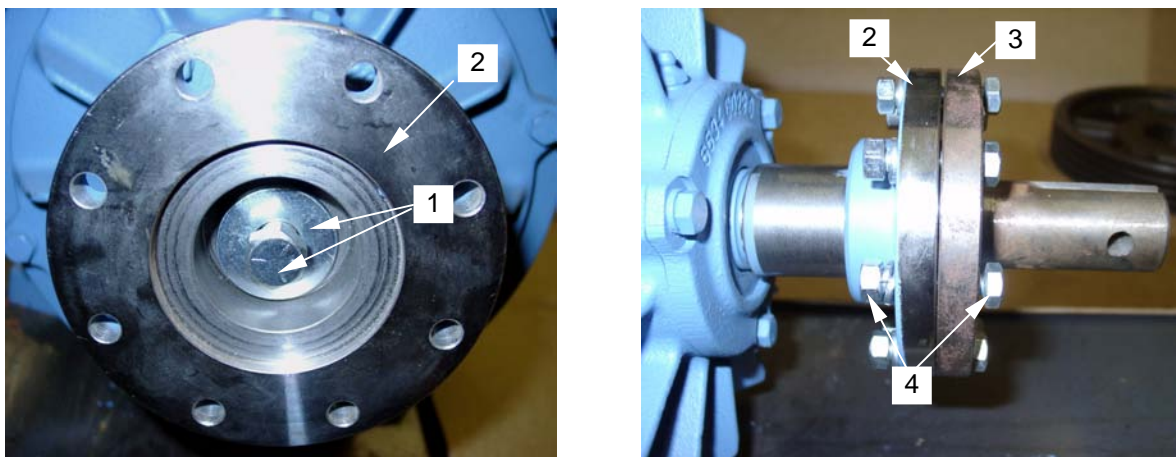

Figure 8. Installing Flanged Pump Shaft Extension
11. Install flat washer and bolt (**figure 8, item 1**) into tapered shaft coupler (**figure 8, item 2**) and tighten.
12. Install flanged pump shaft extension (**figure 8, item 3**) onto tapered shaft coupler (**figure 8, item 2**) and secure with eight 13-millimeter hex bolts, nuts and lock washers (**figure 8, item 4**).